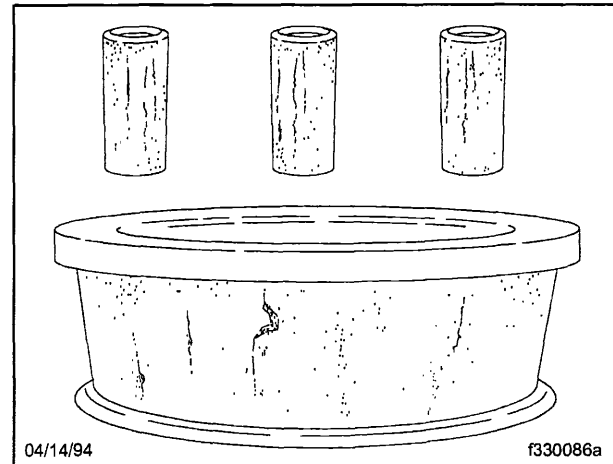

Fig. 10, Etching (Pitting) on Bearing Surfaces
- Etching or pitting on functioning surfaces (see Fig. 10);